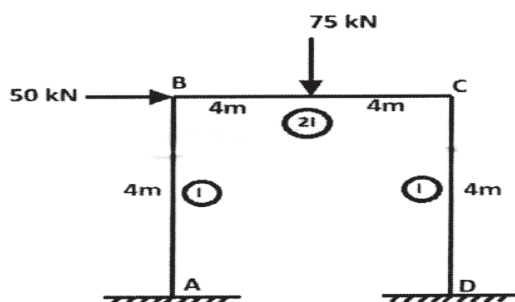

Fig. 4
- Q7) Analyze the rigid frame as shown in Fig 4 by using finite element method. Take EI constant. Neglect axial deformation. [18]